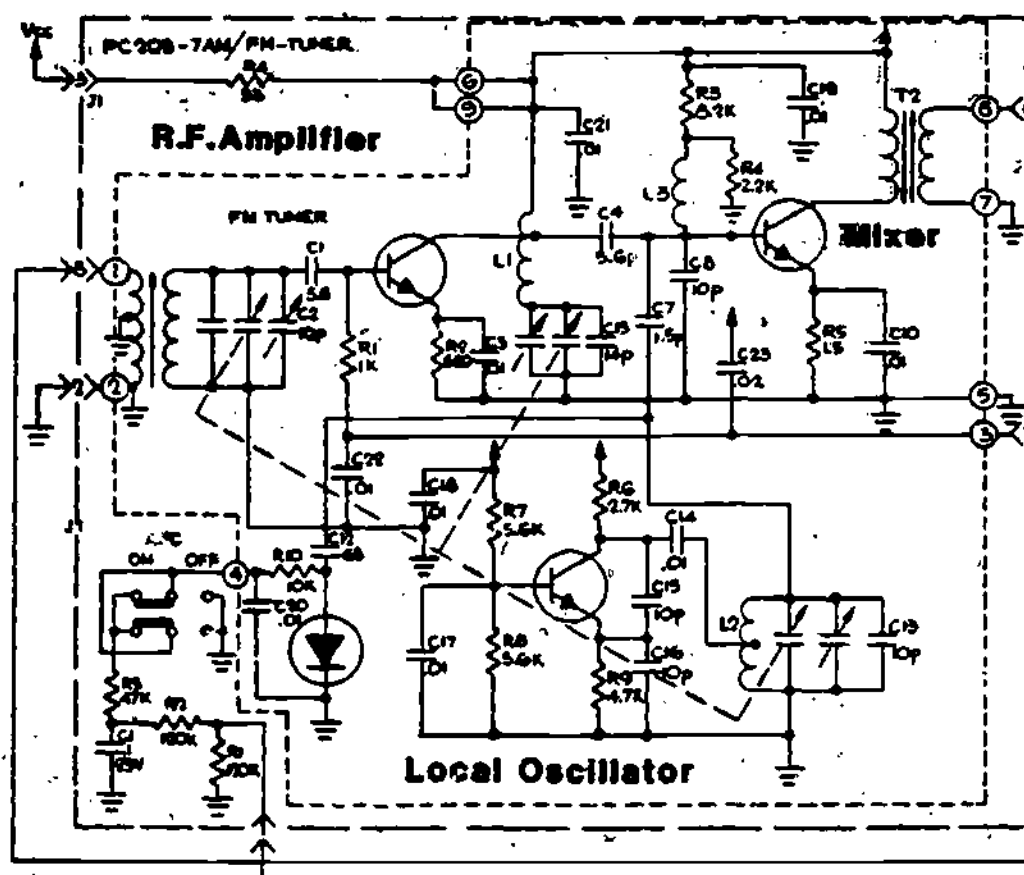

Figure 2
2. Set the DISPLAY control (2) one-quarter turn from its maximum CCW position. The DISPLAY control varies the length of time that the count is displayed.
3. Set the SENSITIVITY switch (3) to the PLUG-IN position. The SENSITIVITY switch selects the source of the input signal (test or plug-in) and the amount that the signal is attenuated if the signal is applied to the "FREQ A" jack.
5. Set FUNCTION switch (5) to the FREQ position. The FUNCTION switch selects the mode of operation (frequency or period).
6. The purpose of RESET switch (7) is to return the display to zero in order to start another count.
7. On the CV-1921/USM-207 FREQUENCY CONVERTER, set the FREQUENCY TUNING-MC switch (6) to 100. Notice that this switch selects frequencies from 100 to 500 MHz in increments of 50 MHz. You must know the approximate frequency applied before using this converter.
8. Set the DIRECT-HETERODYNE switch (8) to HETERODYNE. This position of the switch will mix the input frequency with 100 MHz and display the difference between the two frequencies. By adding the displayed frequency to 100 MHz, you have the frequency applied to the input jack.
9. Set the ATTENUATOR switches (9) and (10) to the 10V MAX position. These switches determine the amount that the signal applied to the converter will be attenuated.
10. (11) is the input connector to the CV-1921/USM-207 frequency converter.
11. (12) is the converter meter and registers the strength of the signal being applied to the counter. If the meter is positioned in the red or low green the signal is not strong enough to drive the counter.
12. Turn the NIDA Transceiver Trainer over and remove the bottom cover. Notice the 3rd tuning capacitor from the front of the transceiver. This is the local oscillator tuning capacitor. Study Figure 2 and notice that this is a Hartley Oscillator.